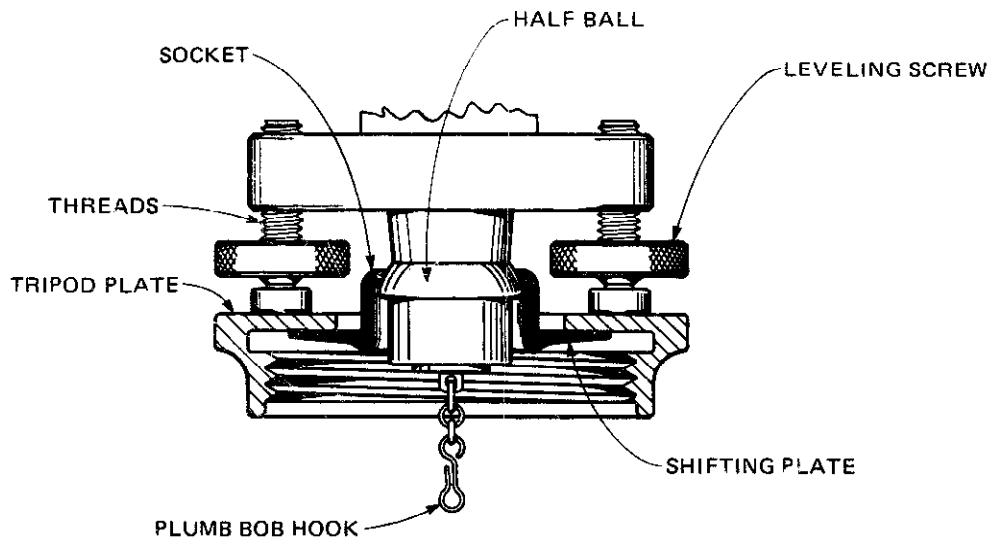
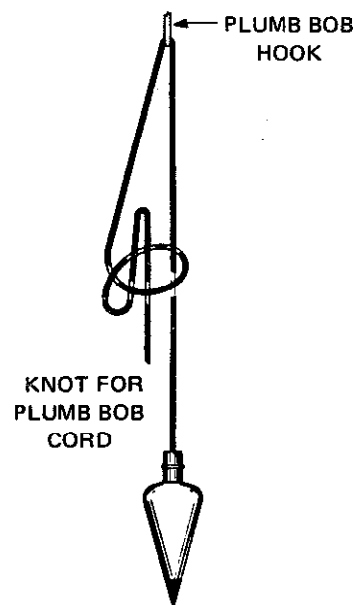

Fig. 5-26 Details of selected components of a builders' level.
Fig. 5-28 Tying the end around the middle of the cord with a single slip knot
- b. Pass the plumb bob cord over the plumb hook (figure 5-26). Tie the end around the middle of the cord with a single slip knot. See figure 5-28. The bob can then be raised or lowered by sliding the knot along the cord.